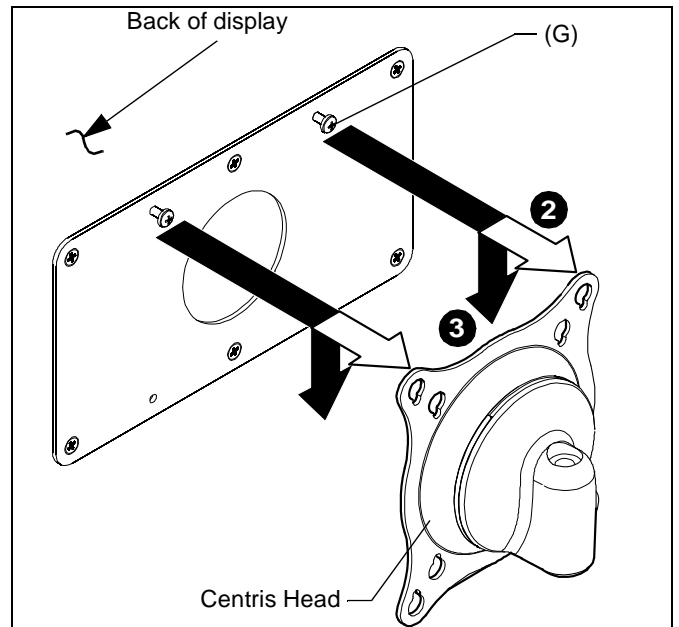

Figure 7
2. Align two mounting screws (G) with upper teardrop mounting holes in Centris head.
3. Insert two upper mounting screws (G) into upper teardrop mounting holes in Centris head, and lower display until mounting screws are fully seated in lower area of teardrop mounting holes. (See Figure 7)